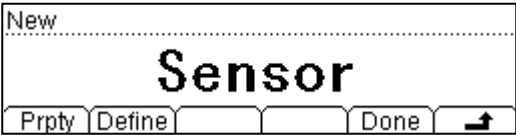

Figure 2-39 New interface
- Press  to finish the parameter settings and return to the **New** interface (figure 2-39).
(3) Press **Done** (figure 2-39), it will appear **Save** and **Apply** options.